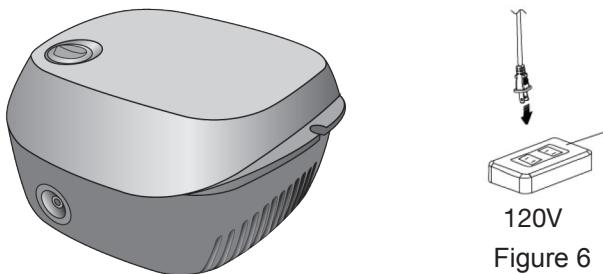

Figure 6
1. Take the power cord and plug it into an electrical outlet (Figure 6)